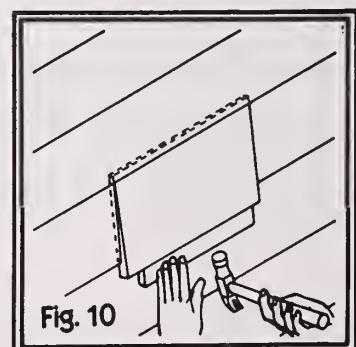

Fig. 10
6. Slip the new board into position and drive it into place with the hammer. Hammer against a small wood block to avoid damaging the board (fig. 10).